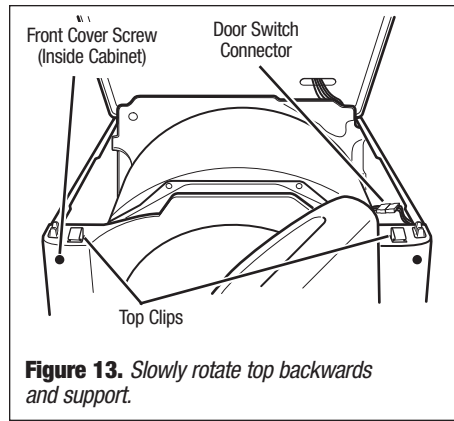

Figure 13. Slowly rotate top backwards and support.
3. Push on the retaining clips located under top of dryer on the right and left side using a flat object such as a putty knife. See figure 13.
5. Disconnect the door switch wire harness located on the right side. See figure 13.